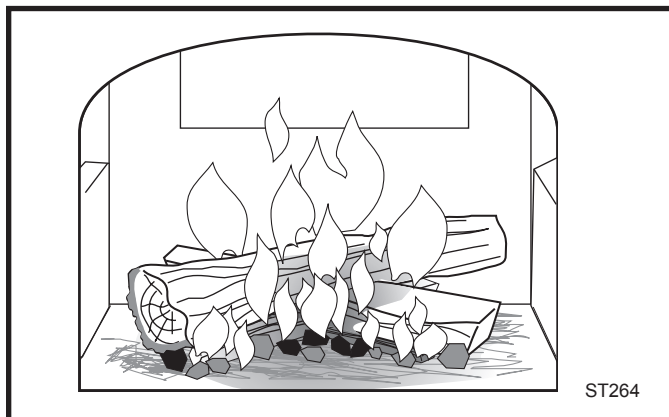

Fig. 38 Add larger pieces of wood as the fire begins to burn well.
4. If your Defiant has been broken-in previously using Steps 1-3, continue to build the fire gradually. Add larger wood with a diameter of 3-4" (75-100 mm). Continue adding split logs of this size to the briskly-burning fire until there is a glowing ember bed 2-3" (51-75 mm) deep. (Fig. 38) A good ember bed is necessary for proper functioning of the non-catalytic system and may take an hour or more to establish.